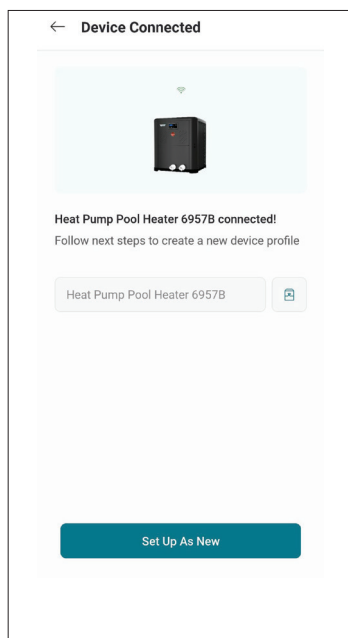

Figure 107. Name Your Unit
10. Your device is now connected to Wi-Fi. You can change the name of your device here. See Figure 107.